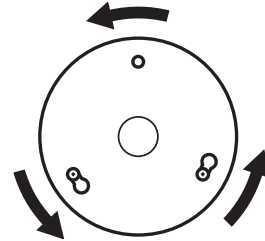

Figure 27 - Mounting the upper switch housing
4. Turn the upper switch housing counterclockwise until the housing assembly screws are firmly situated in the narrow end of the keyhole slots as shown in Figure 27. Install the one remaining #6-32 x 3/8" housing assembly screw into the third hole in the upper switch housing. Tighten all three screws firmly.